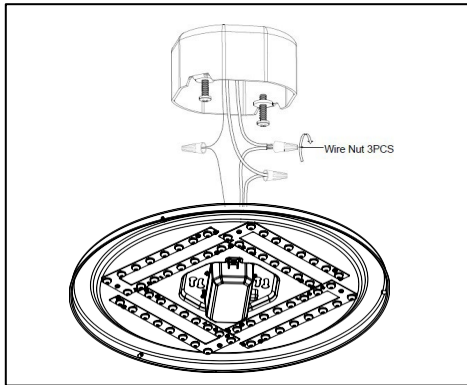

Figure 8
2. With the power turned off, hold the fixture housing assembly (2) firmly and connect the copper ground wire from the fixture to the bare copper wire from the junction box using a wire nut (5) (if your housing wiring does not include a ground wire, consult your local electrical code for approved grounding method.) (See Figure 8)
3. Use wire nuts (5) to connect the black fixture wire to the black power supply wire and white fixture wire to the white power supply wire. (See Figure 8).
4. Hold housing assembly (2) in one hand and with the other hand position wires up and into Junction box. (See Figure 8).